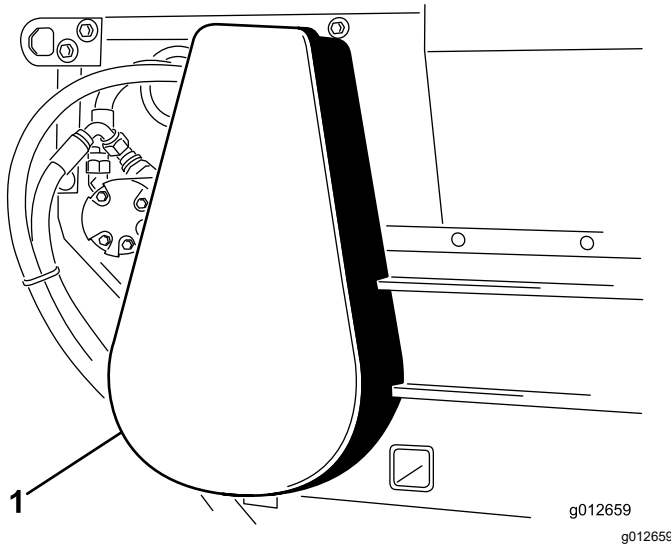

**Figure 27**
3. Inspect hopper seals and gate edge for wear or torn edges (Figure 27).